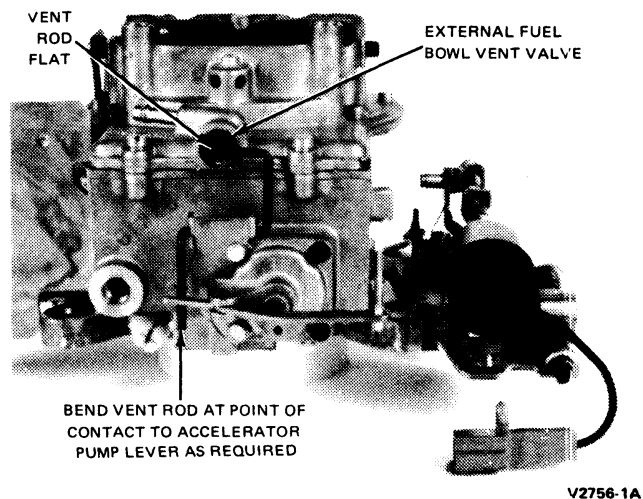

FIG. 22 External Fuel Bowl Vent Valve
1. Fully depress the vent valve into the valve bore with carburetor throttle at curb idle position (Fig. 22).